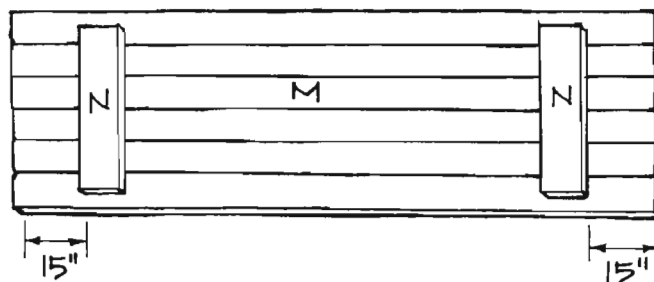

Figure 7
1. If you purchased material already laminated, trim the piece to 19-1/2 by 51-1/2 inches to make the top (M). Then skip down to step 4.
2. To make the laminated top (M) yourself, cut six lengths of 1 x 4 pine, each 51-1/2 inches long. Before gluing the wood lengths together, rip a minuscule amount from each edge to ensure a solid bond in the lamination process. Then spread glue on the adjoining edges, and place the lengths of wood side by side. Clamp them together securely, using at least two bar clamps, and leave them clamped overnight.
3. Trim the laminated section to make one top (M) measuring 19-1/2 by 51-1/2 inches.
4. Sand every surface of the laminated top (M) thoroughly. Examine both faces of the top (M), and choose the better-looking one for the outside.
5. Cut two top braces (N) from 1 x 4 pine, each 16 inches long.
6. Attach the two top braces (N) to the inside face of the top (M). As shown in *Figure 7*, center the top braces between the long edges of the top, and place each one 15 inches in from the short sides of the top. Use glue and 1-1/4-inch-long screws spaced about 4 inches apart to secure the braces to the top.